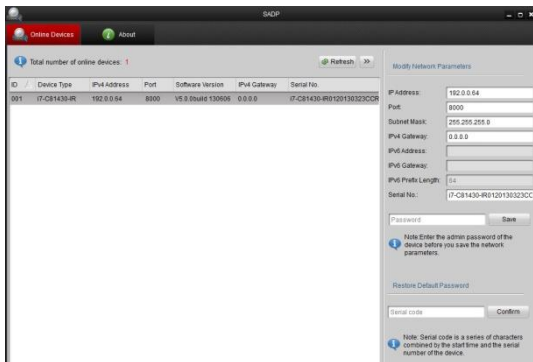

Figure 4-2 Search Online Devices
- ☐ Use SADP, a software tool which can automatically detect network camera in the LAN and list the device information like IP address, subnet mask, port number, device serial number, device version, etc., shown in Figure 4-2.